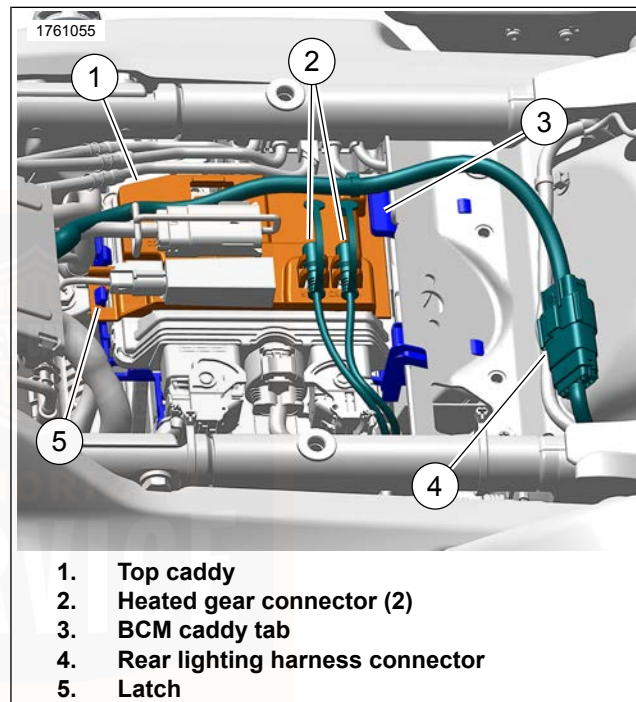
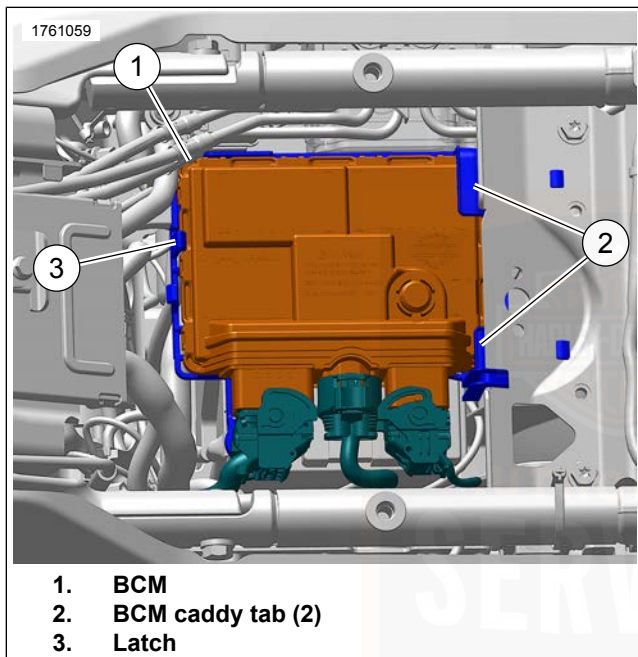
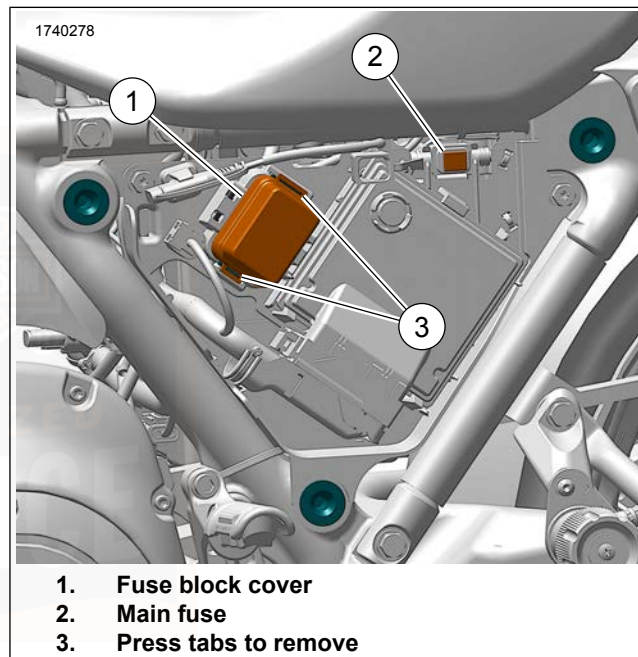

Figure 106. Removing/Installing Top Caddy
Figure 107. Removing/Installing BCM
Figure 110. Fuse Block (under left side cover)
- d. See Figure 110. Remove main fuse (2).
3. See Figure 106. Disconnect rear lighting harness connector (4).
4. Remove heated gear connectors (2) from top caddy (1).
5. Push latch (5) rearward slightly and lift front of top caddy. Slide top caddy forward to release it from BCM caddy tab (3).
7. See Figure 107. Push latch (3) forward slightly and lift front of BCM (1). Slide BCM forward to release it from BCM caddy tabs (2).
9. See Figure 107. Lower BCM (1) down into position on top of BCM caddy. Slide BCM rearward under rear BCM caddy tabs (2).
10. Push down front of BCM until latch (3) snaps in place.
11. See Figure 106. Lower top caddy (1) into position on top of BCM. Slide top caddy rearward under BCM caddy tab (3).
12. Push down front of top caddy until latch (5) snaps in place.
13. Install heated gear connectors (2) into retainers on top caddy.
14. Connect rear lighting harness connector (4).
15. See Figure 110. Install main fuse (2).
See Figure 110. A 60 A main fuse (2) is located near the fuse block. Removing the main fuse disconnects power to all systems except the starter motor/solenoid.
See Figure 110. Fuses are located under left side cover.